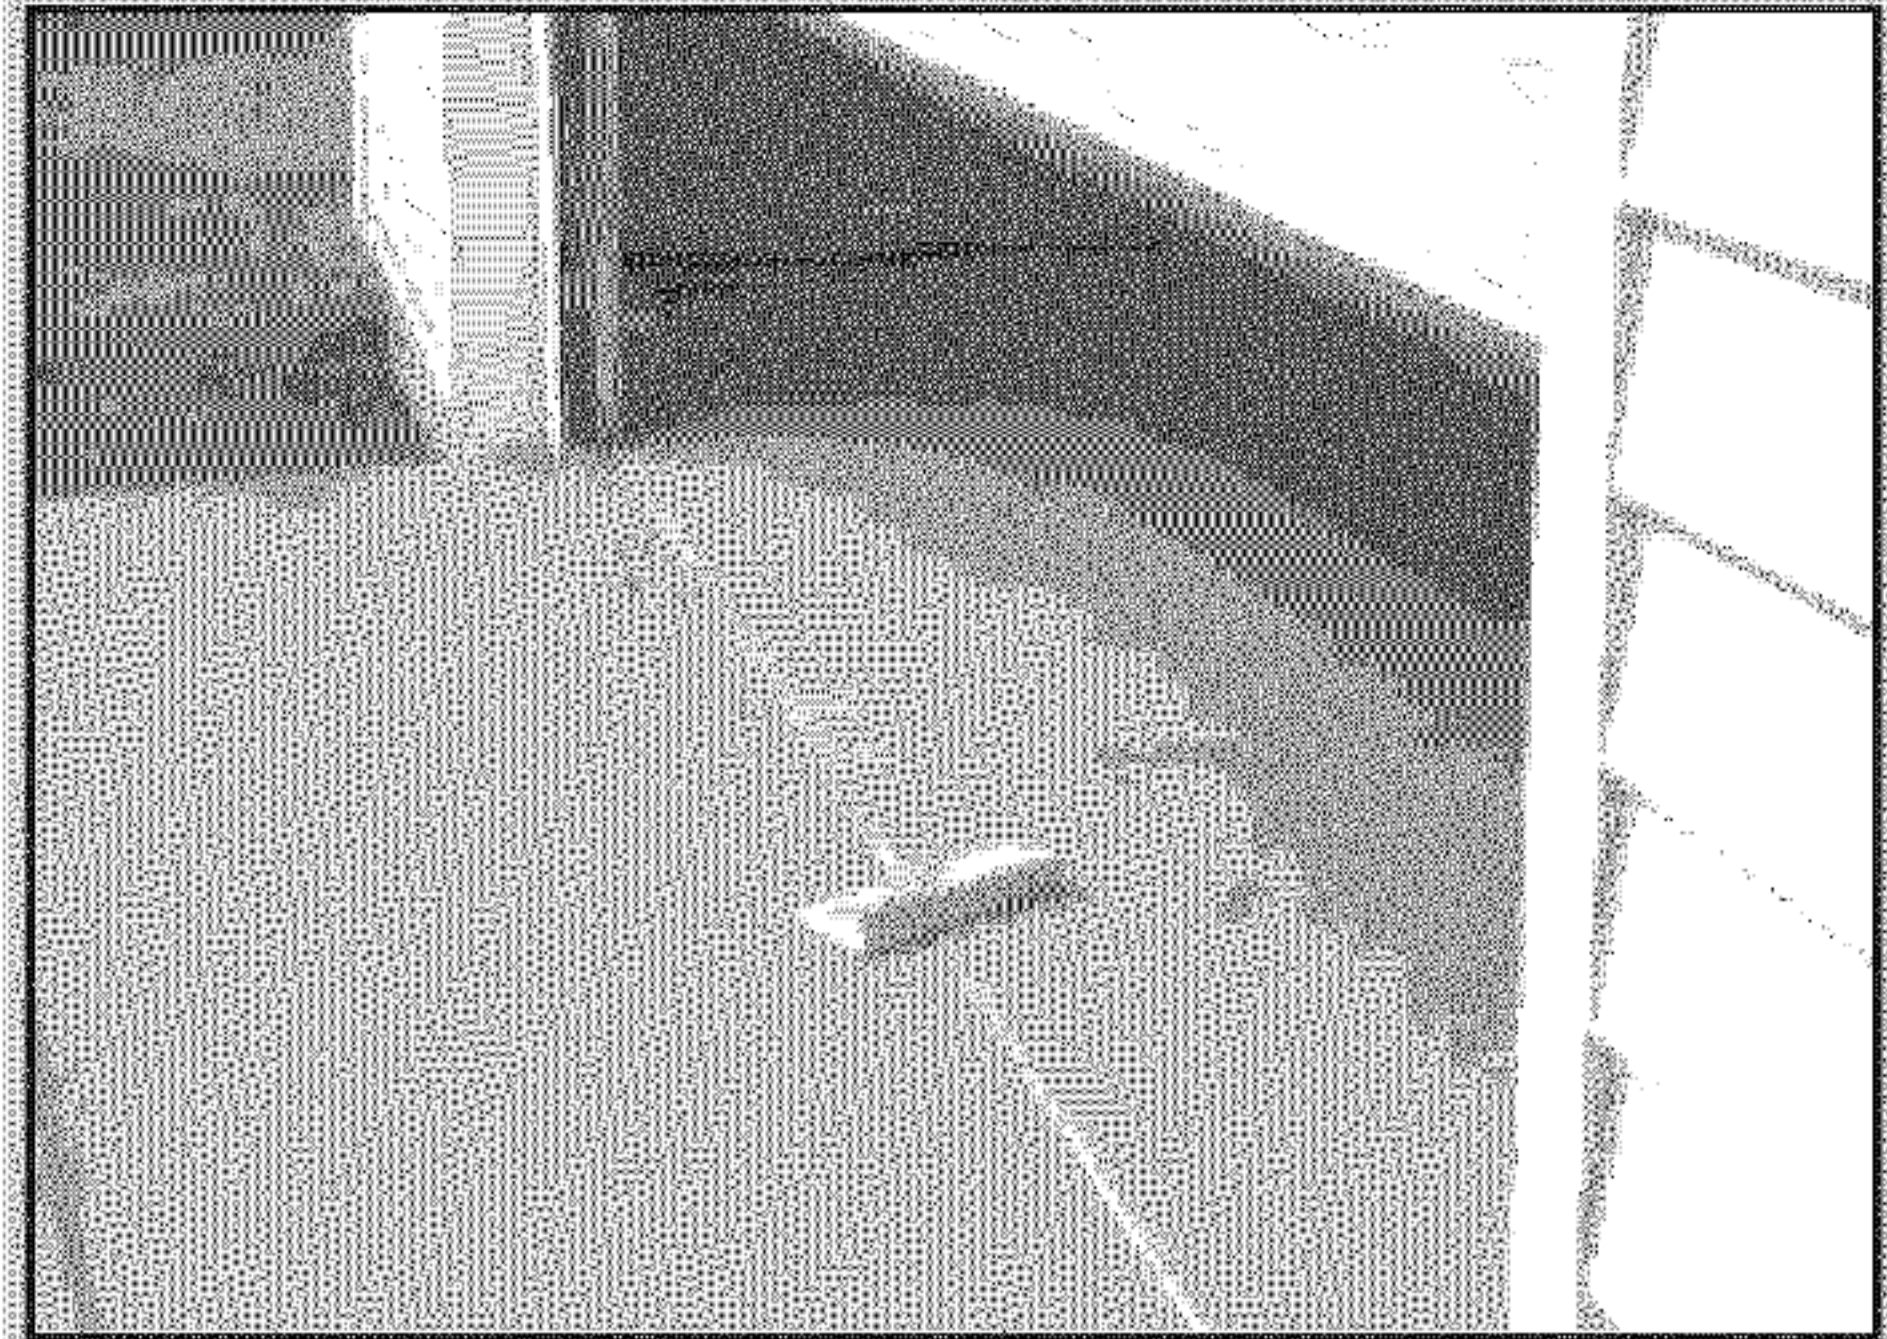

FIG. 7-5 2 x 4 under center of door opening
- Place a 2" x 4" board (laid flat) under center of garage door opening (**Fig. 7-5**).